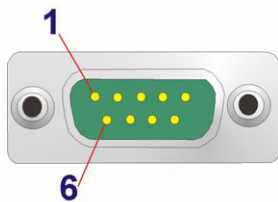

Figure 3-37: Serial Port Connector Pinouts
- CN Pinouts:** See **Table 3-36** and **Figure 3-37**